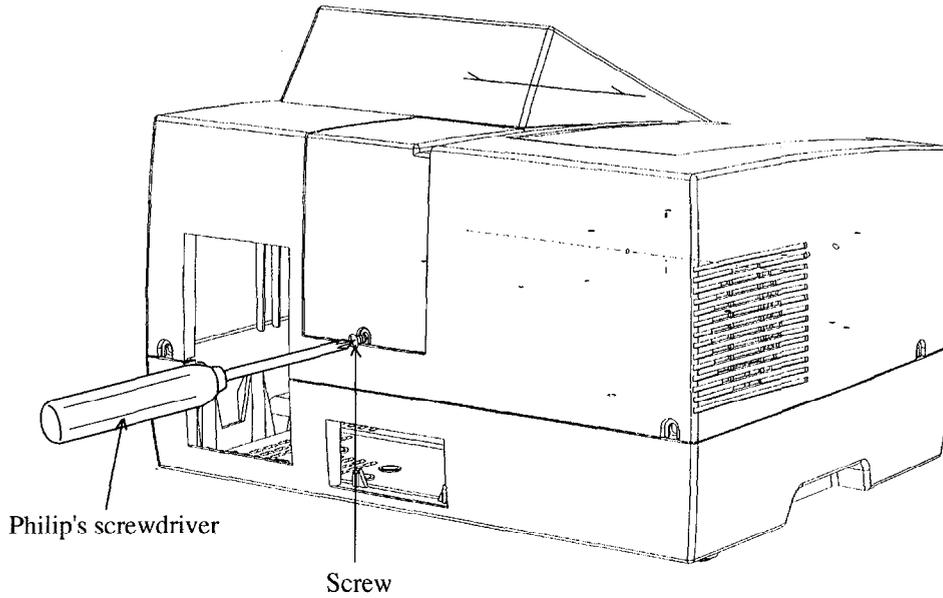
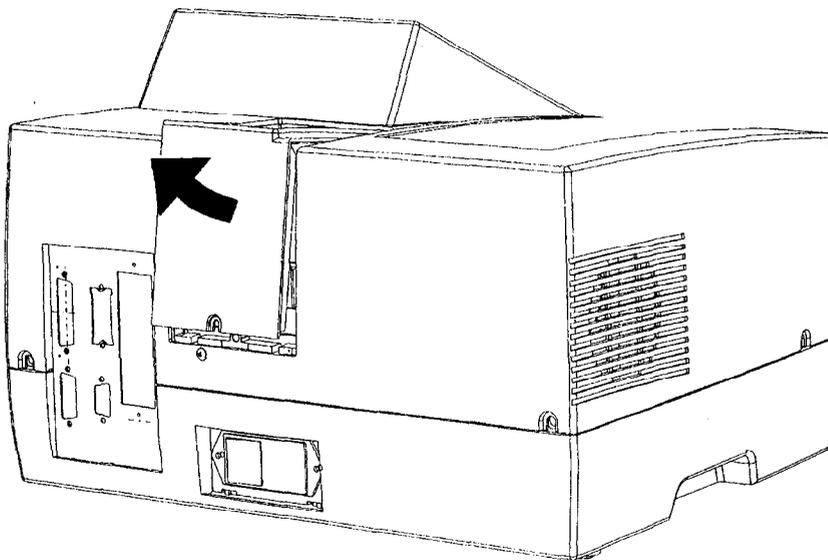

Fig.11.4.3 Light source cover
Fig.11.4.4 Removing the light source cover
*1 Refer to Fig.11.4.3 and Fig.11.4.4 in section 11.4.2 to remove the light source compartment cover.
- (1) Using a Philip's screwdriver, remove the screws at the rear of the main unit shown in Fig. 11.4.3.
- (2) Next, pull the light source cover in the direction of the arrow in Figure 11.4.4 to remove the light source cover.
- (1) Press on the parts indicated by the arrows in Figure 11.4.3 on the sides of the light source cover, lift the cover up and release the "catch".
- (3) Remove the WI lamp retainer spring from the end of the top of the WI lamp. Since there is fear of touching the D₂ lamp with your hand at this time, either cover the D₂ lamp with a clean piece of paper or cloth or remove the D₂ lamp before performing this operation. (Refer to "Replacing D₂ Lamp" for the procedure of removing the D₂ lamp.)